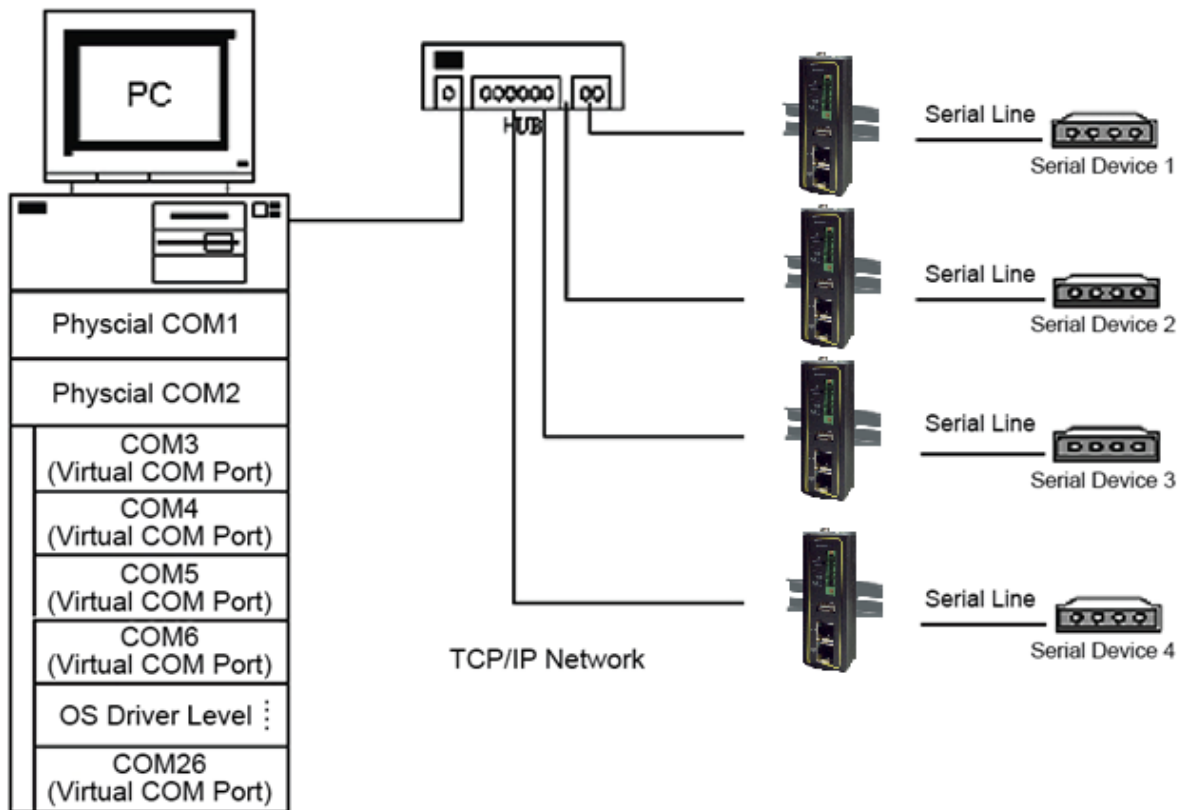

Figure 6.3 An Example Diagram of Virtual COM Application over TCP/IP Network
Virtual COM on host computer allows remote access of serial devices over TCP/IP networks through Serial/IP Virtual COM ports that work like local native COM ports. Figure 6.3 is an example of Virtual COM application diagram. In the diagram, multiple serial servers (i.e. SE59XX devices) in which each one connects to serial device are connected over an Ethernet hub. Their serial devices can be accessed through the TCP/IP network of the hub. Note that there are traditionally only two Physical COM ports (COM 1 and COM 2) on the personal computer (PC) while there can be several Virtual COM ports such as COM 3, 4, 5, and so on. In SE59XX case, the TCP/IP network can be wired network such as Ethernet.